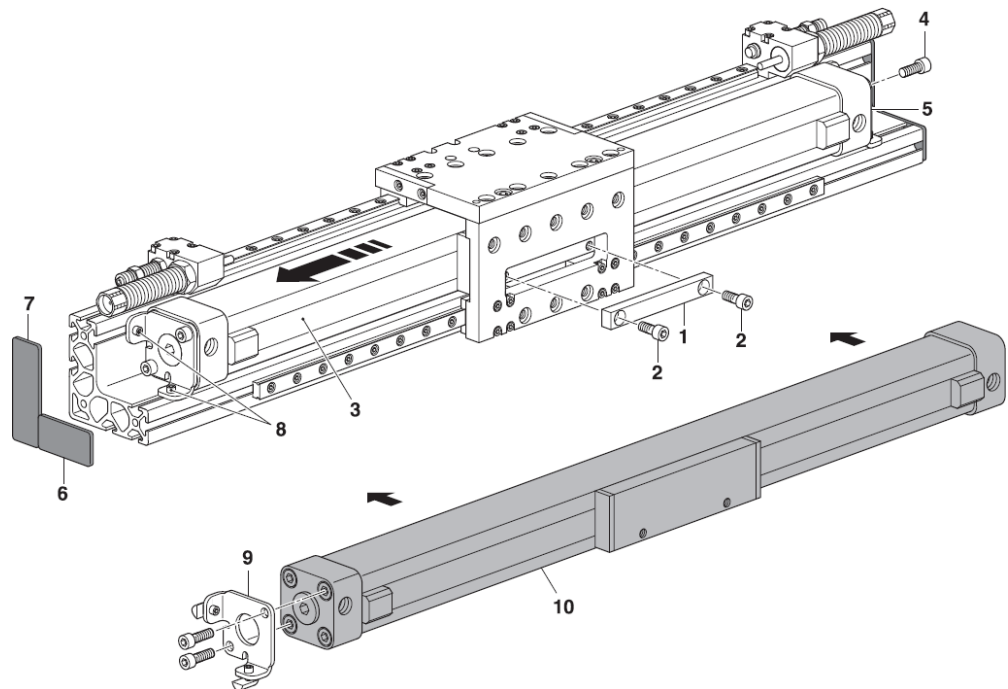

Fig. 43 Commissioning the gantry module
2. Unscrew the cap screws (Fig. 43, 2) and remove the actuator (Fig. 43, 1).
3. Unscrew the cylinder screws (Fig. 43, 4) and detach the cylinder (Fig. 43, 3) from the base body and extend it.
4. Remove end piece (Fig. 43, 9) from old cylinder (Fig. 43, 3) and reattach to new cylinder (Fig. 43, 10).
5. Insert new cylinder (Fig. 43, 10) and fix it to the fixed end piece (Fig. 43, 5).
6. Screw the other end of the cylinder to the body using the end piece (Fig. 43, 9) and refit the actuator (Fig. 43, 1).
7. Insert the cover plates (Fig. 43, 6 + 7).